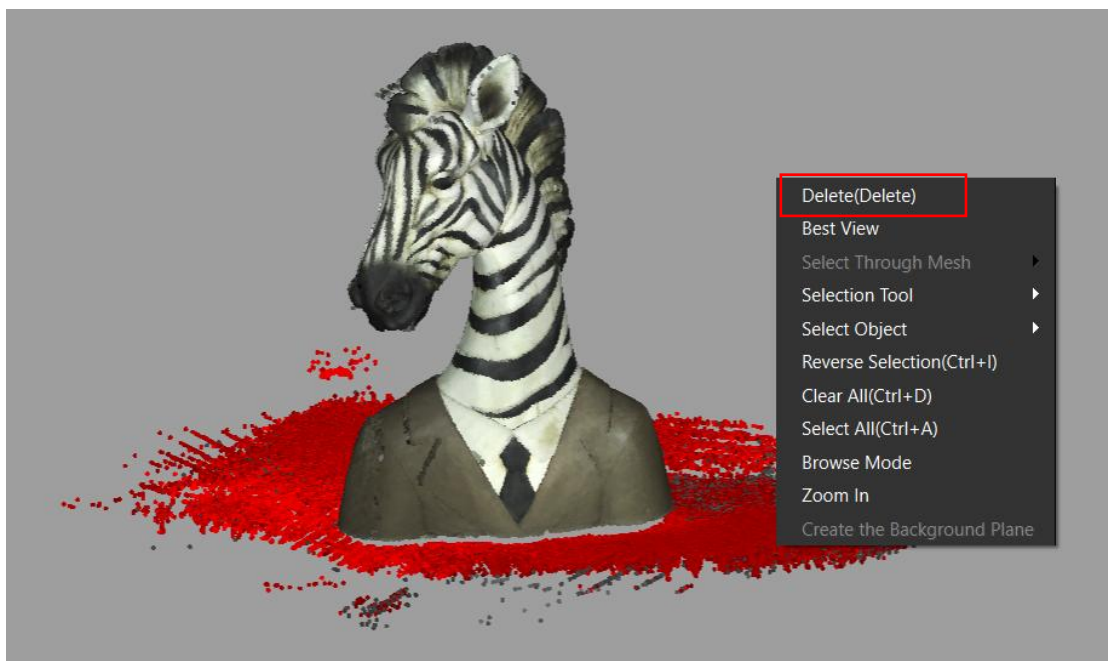

Figure 8-1 Delete Noise Data
1. Select the unwanted noise data with lasso tool by left-clicking the mouse. Delete the selected data by either right-clicking and choosing "Delete" from the context menu, or pressing the Delete key on your keyboard, which is shown in Figure 8-1.